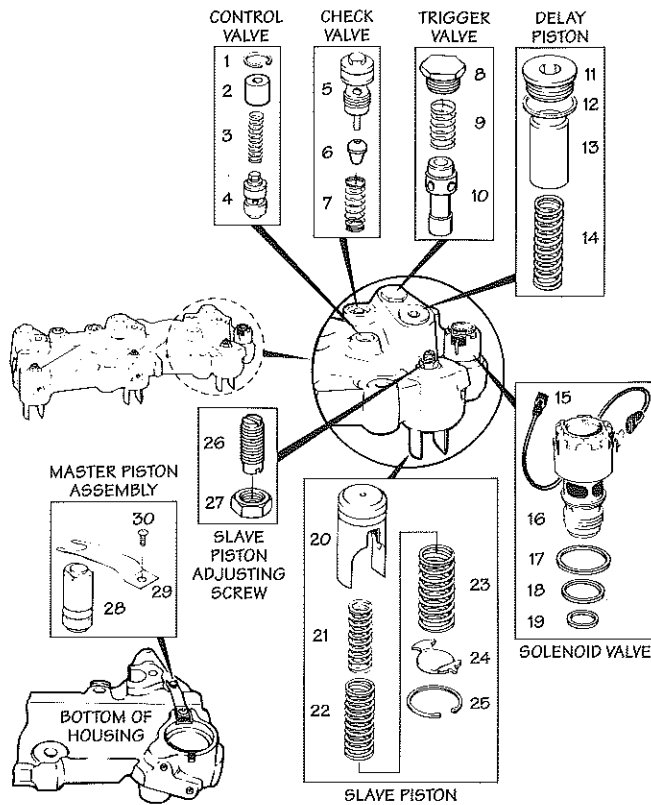

FIG. 1
7. **Check Valve:** Replace all parts in the order shown in Fig. 1. Tighten the check valve assembly (5) to 35 lb.-ft. (48 N•m).